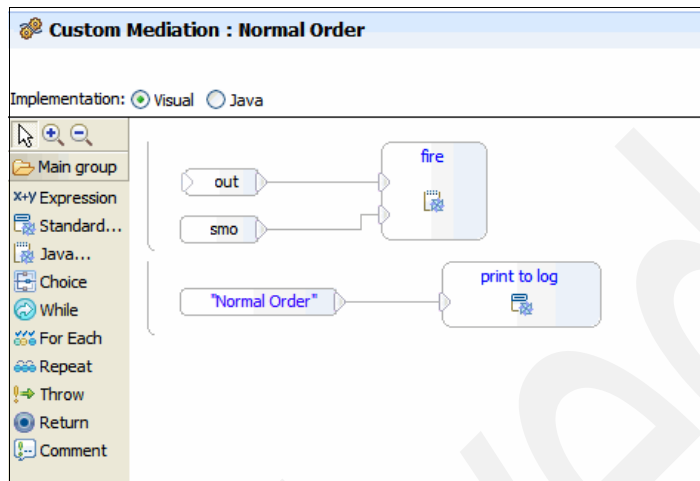

Figure 6-88 Normal Order
7. Click the **expression snippet** and type "Normal Order" (Figure 6-88).